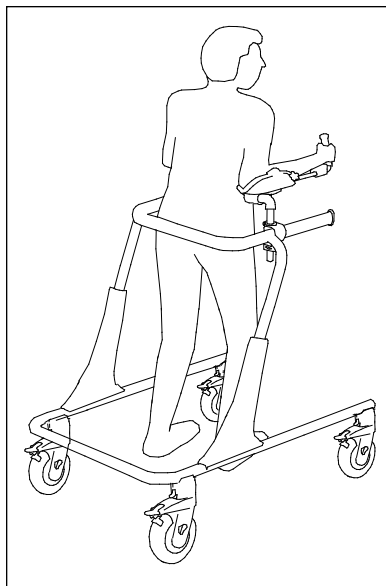

Figure 31
Rear Facing (see Figure 31)
Users positioned posteriorly generally require less support and fewer accessories (see Figure 31).
- Arm Prompts should be attached as close to main frame uprights as possible. (see fig. 31) Refer to the warnings on page 9 for important safety information.
3. Turn accessories to face open end of Pacer frame and re-attach to the top bar. (Figure 31 shows the Arm Prompts attached for posterior positioning.)